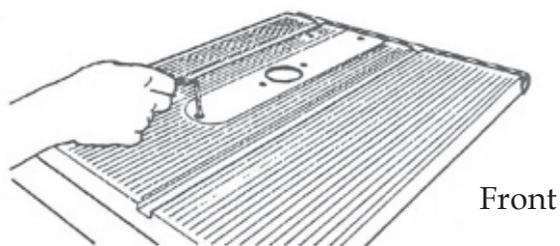

Figure C-89
- Using your 5/32" Allen wrench, remove the Saw Table Insert (138) and replace it with the Shaper/Router Table Insert (see figure C-89).